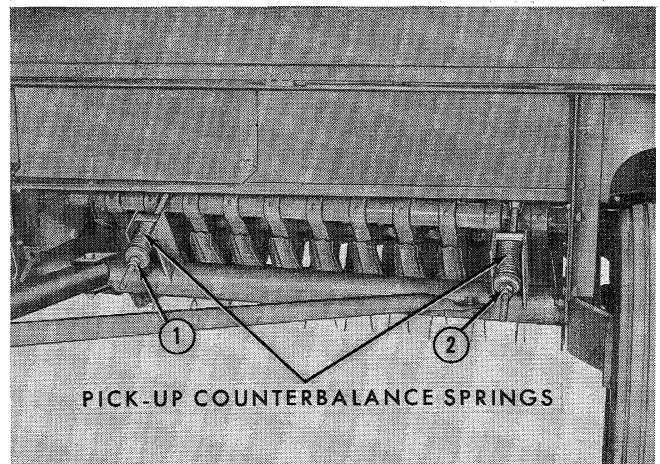
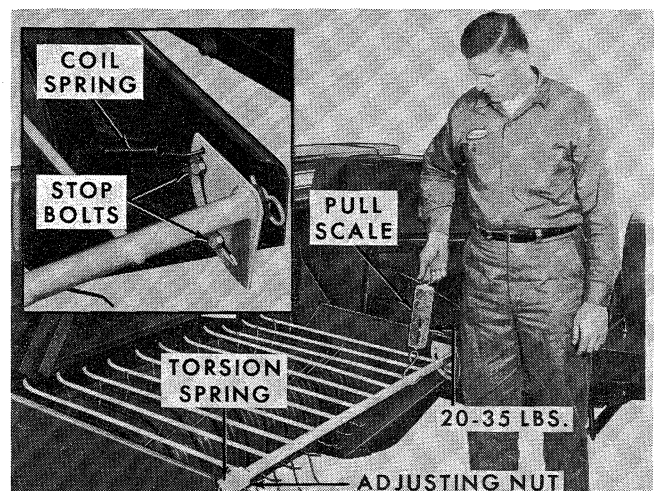

Figure 19
Figure 20
The pick-up counterbalance springs, Figure 19, carry most of the weight of the pick-up assembly providing a floating action. The tension on the counterbalance springs control this action. Normally, the springs are adjusted so that the pick-up assembly will float with approximately 20–35 pounds weight at the hay hold-down pipe, Figure 20, when the pick-up is in the operating position. However, it may be necessary to increase or decrease the tension on the counterbalance springs, depending on crop conditions.
The tension is adjusted by loosening the jam nuts and turning the adjusting nuts, (1) and (2), Figure 19. Always secure the adjusting nuts in place with the jam nuts.
The hay hold-down assembly, Figure 20, holds the material being fed into the baler firmly on the pick-up teeth for a positive feeding action. If your baler is equipped with a 6-bar pick-up reel, the tension on the hold-down assembly is controlled by a torsion spring. On balers equipped with a 4-bar pick-up reel, the tension is controlled by a coil spring as shown in the Insert, Figure 20.
The hay hold-down pipe stops, Insert, Figure 20, on both the 4-bar and 6-bar pick-up reels, limit the upward and downward travel of the hay hold-down tines. The travel may be adjusted by backing off the jam nuts, loosening the stop bolts, and repositioning the bolts in the slot of the stop plate.